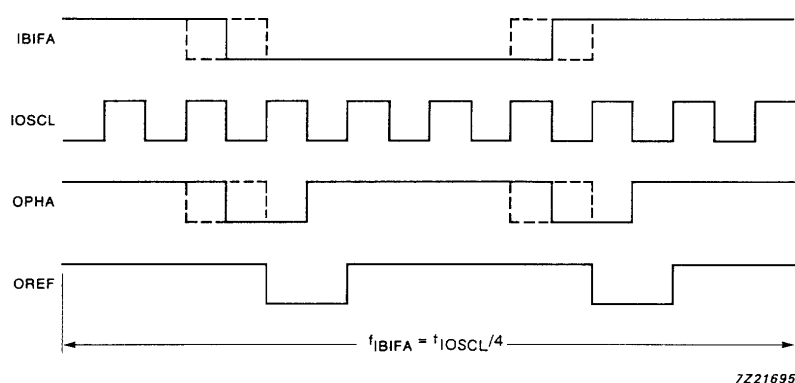

Fig.3 Generation of phase output signal (OPHA) and phase reference signal (OREF); $f_{IBIFA} = f_{IOSCL}/4$.
- Generates a phase output signal (OPHA) and a phase reference signal (OREF). If the frequency of the biphasic input signal (IBIFA) equals 1/4 of the system clock frequency ($f_{\text{IOSCL}}/4$) then the IC generates OPHA and OREF as shown in Fig.3.